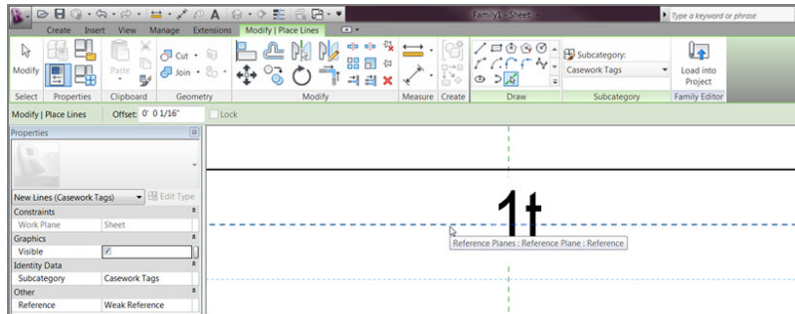

FIGURE 11.75: Offsetting the horizontal reference plane up and down
4. Zoom into the label, and then offset the horizontal reference plane up 1/16" (1.5mm) and down 1/16" (1.5mm), as shown in Figure 11.75.